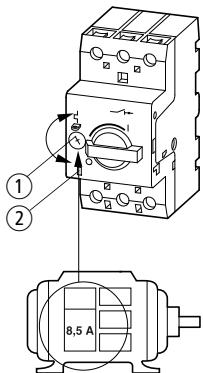

Figure 1: PKZM0-.../XTPR...BC1NL and PKZM0-...-T/XTP...BC1NL motor-protective circuit-breakers
The rated motor current is set on the PKZM0-.../XTPR...BC1NL and PKZM0-...-T/XTPPT...BC1NL units by means of a current dial ① (→ Figure 1).
Proper functioning of the circuit-breaker can be verified by means of the testing feature ② (→ Figure 1, page 25).